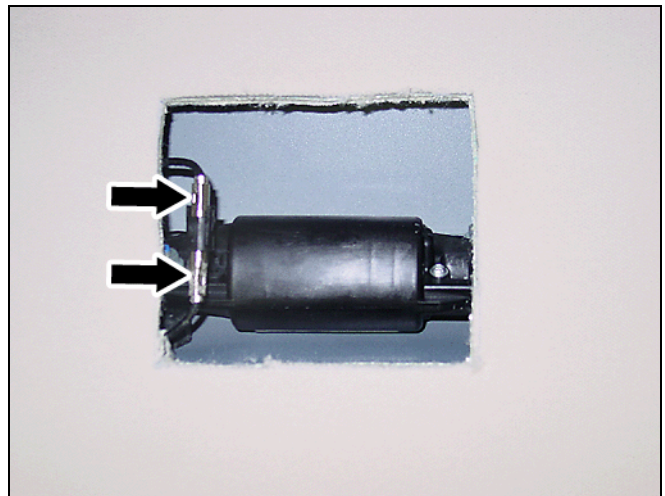

Figure 3
1. Find the preinstalled, coupled antenna leads (Figure 3) between the headliner and roof—near the cutout—and then disconnect them from one another.